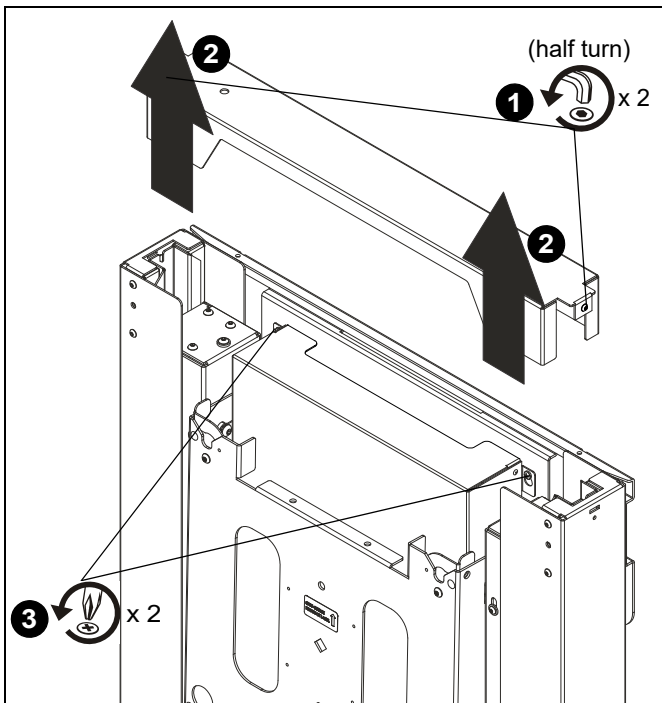

Figure 22
1. Loosen two hex head cap screws inside outer slots one half turn each to loosen top bracket. (See Figure 22)
2. Remove top cover from XSD1U assembly. (See Figure 22)
3. Loosen two Phillips screws holding inner cover to XSD1U. (See Figure 22)